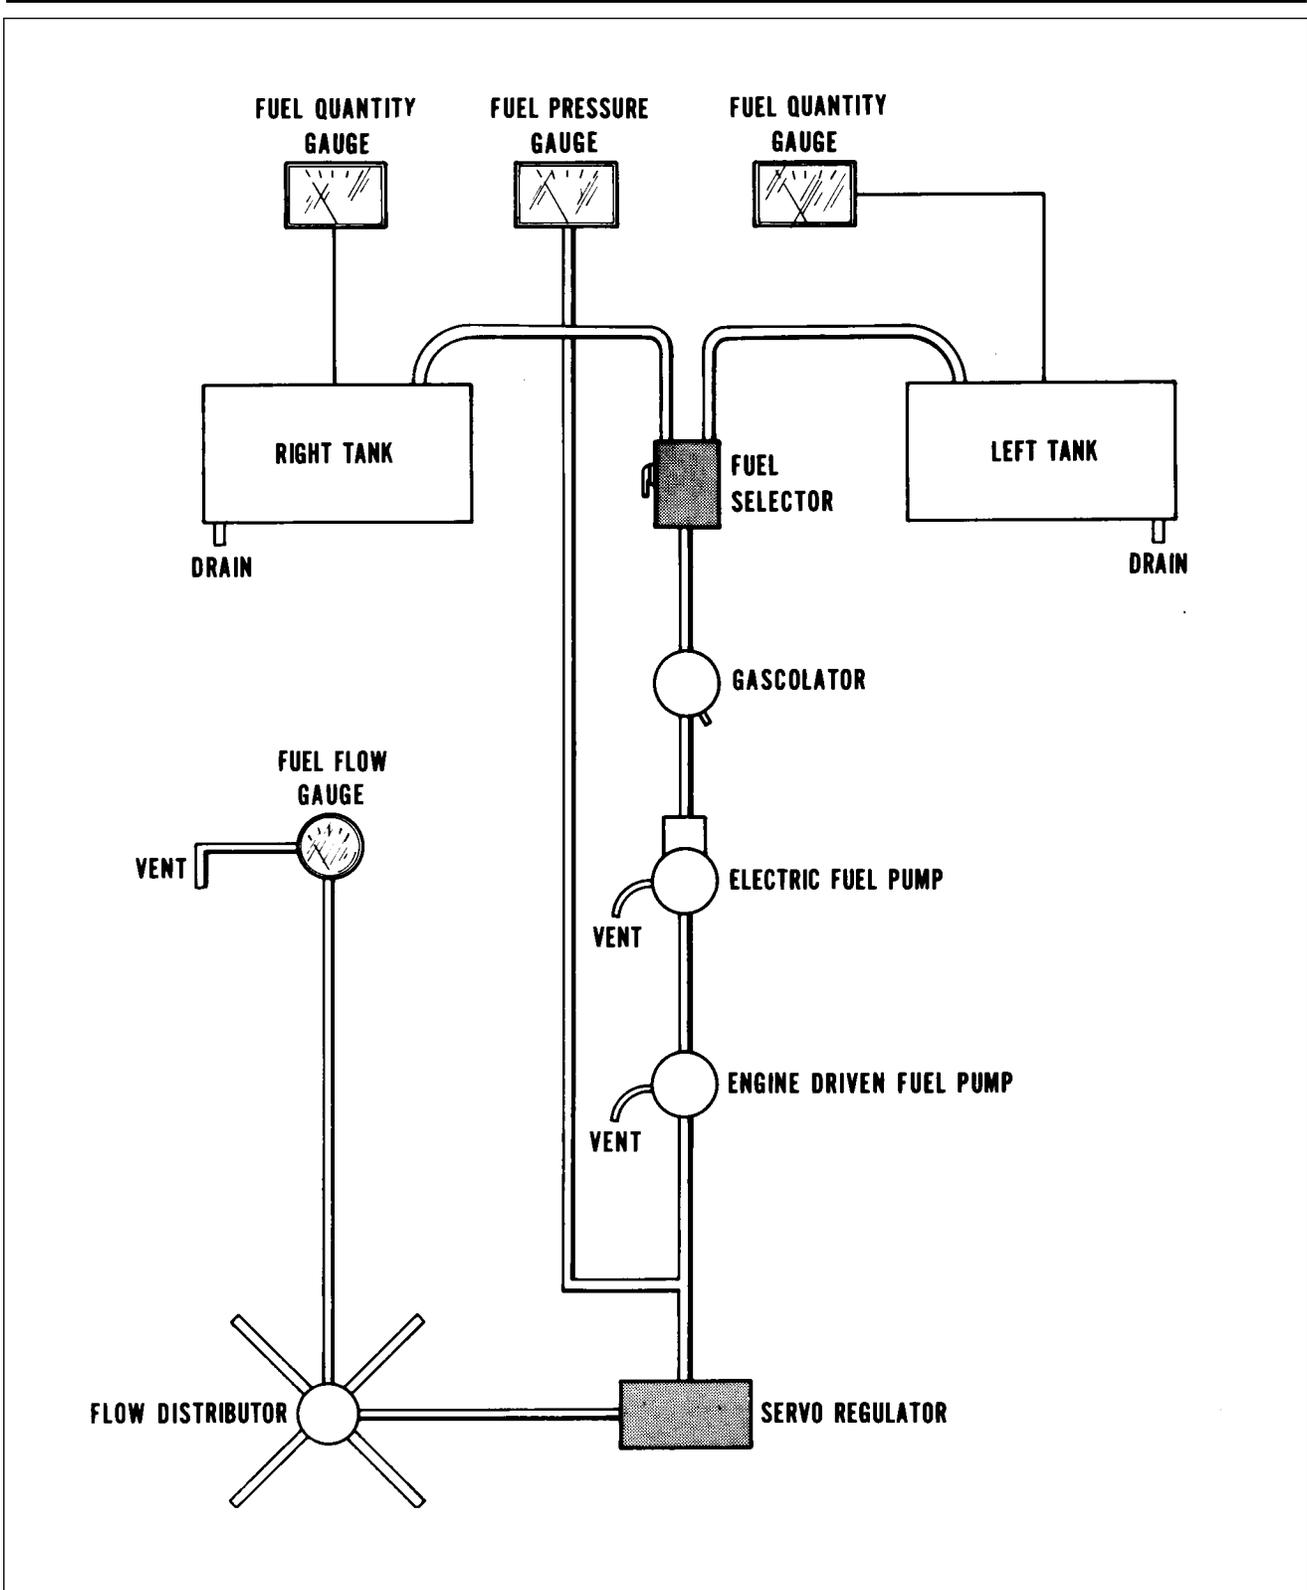

Figure 28-1. Fuel System Diagram (PA-28RT-201)
**PA-28RT-201** (Refer to Figure 28-1.)